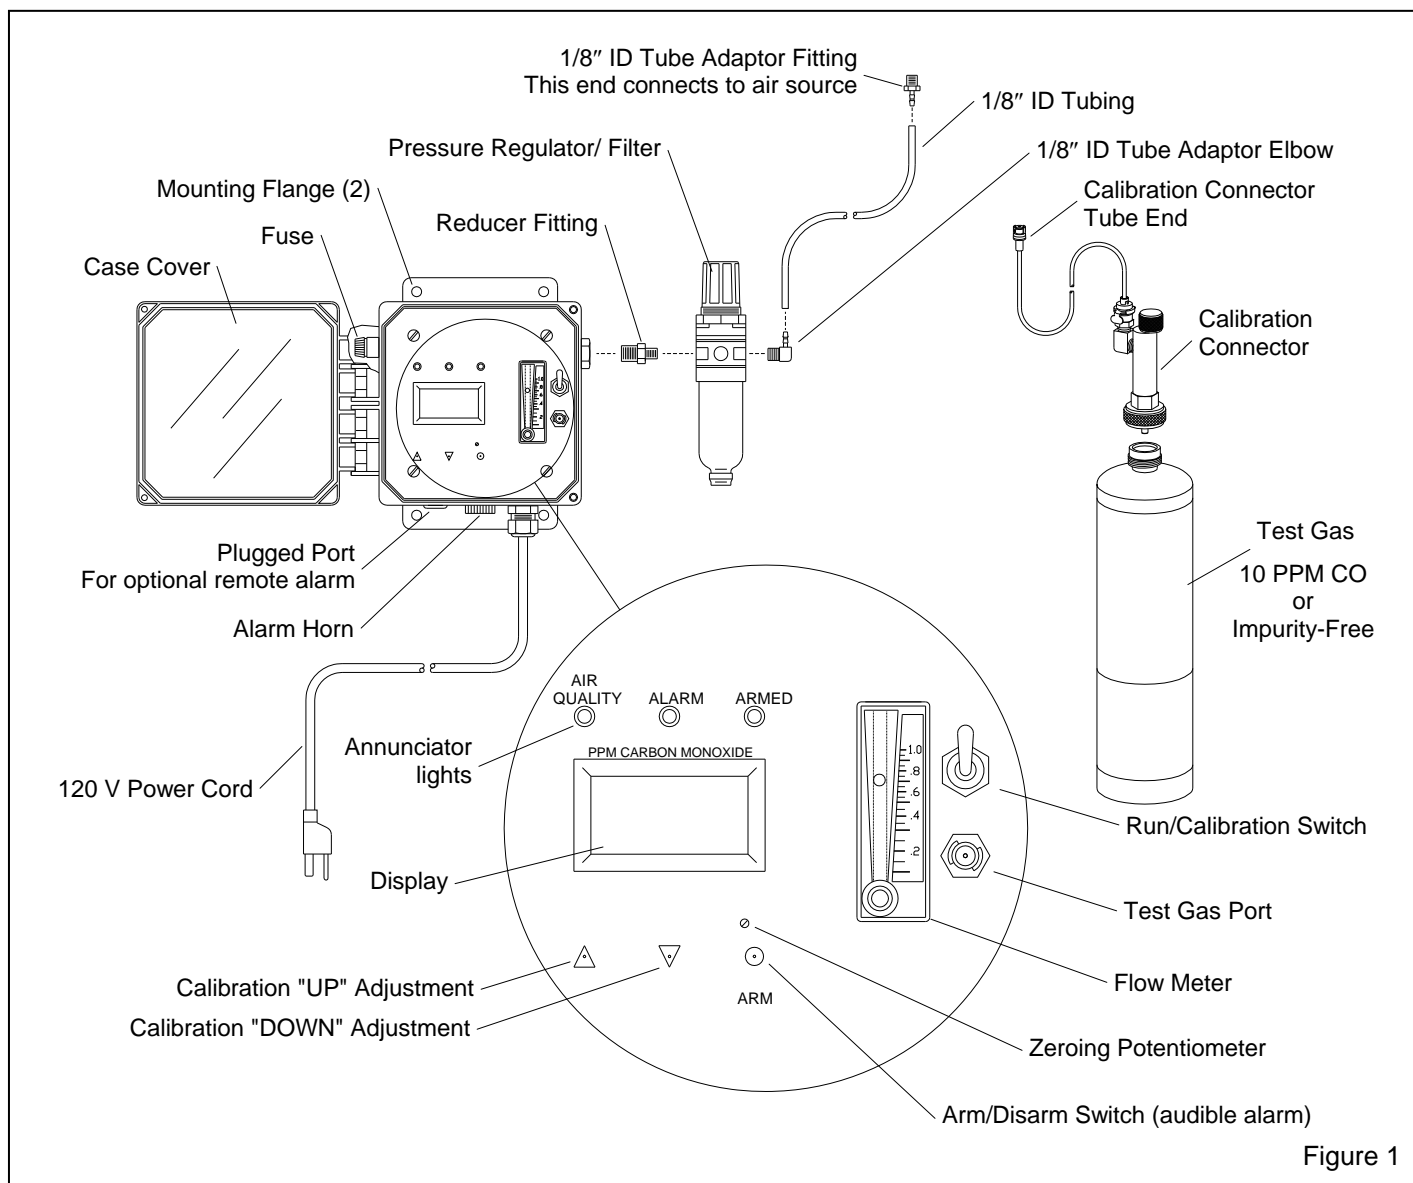

Figure 1
1.3.1 The primary components are shown in Figure 1. The instrumentation is enclosed in a non-metallic case. The monitor system includes the instrument case, filter/regulator, ten feet of 1/8" ID x 1/4" OD tubing with adaptor fittings, a cylinder of 10 PPM (parts per million) test gas, and the calibration connector, which includes the connector valve and tubing.